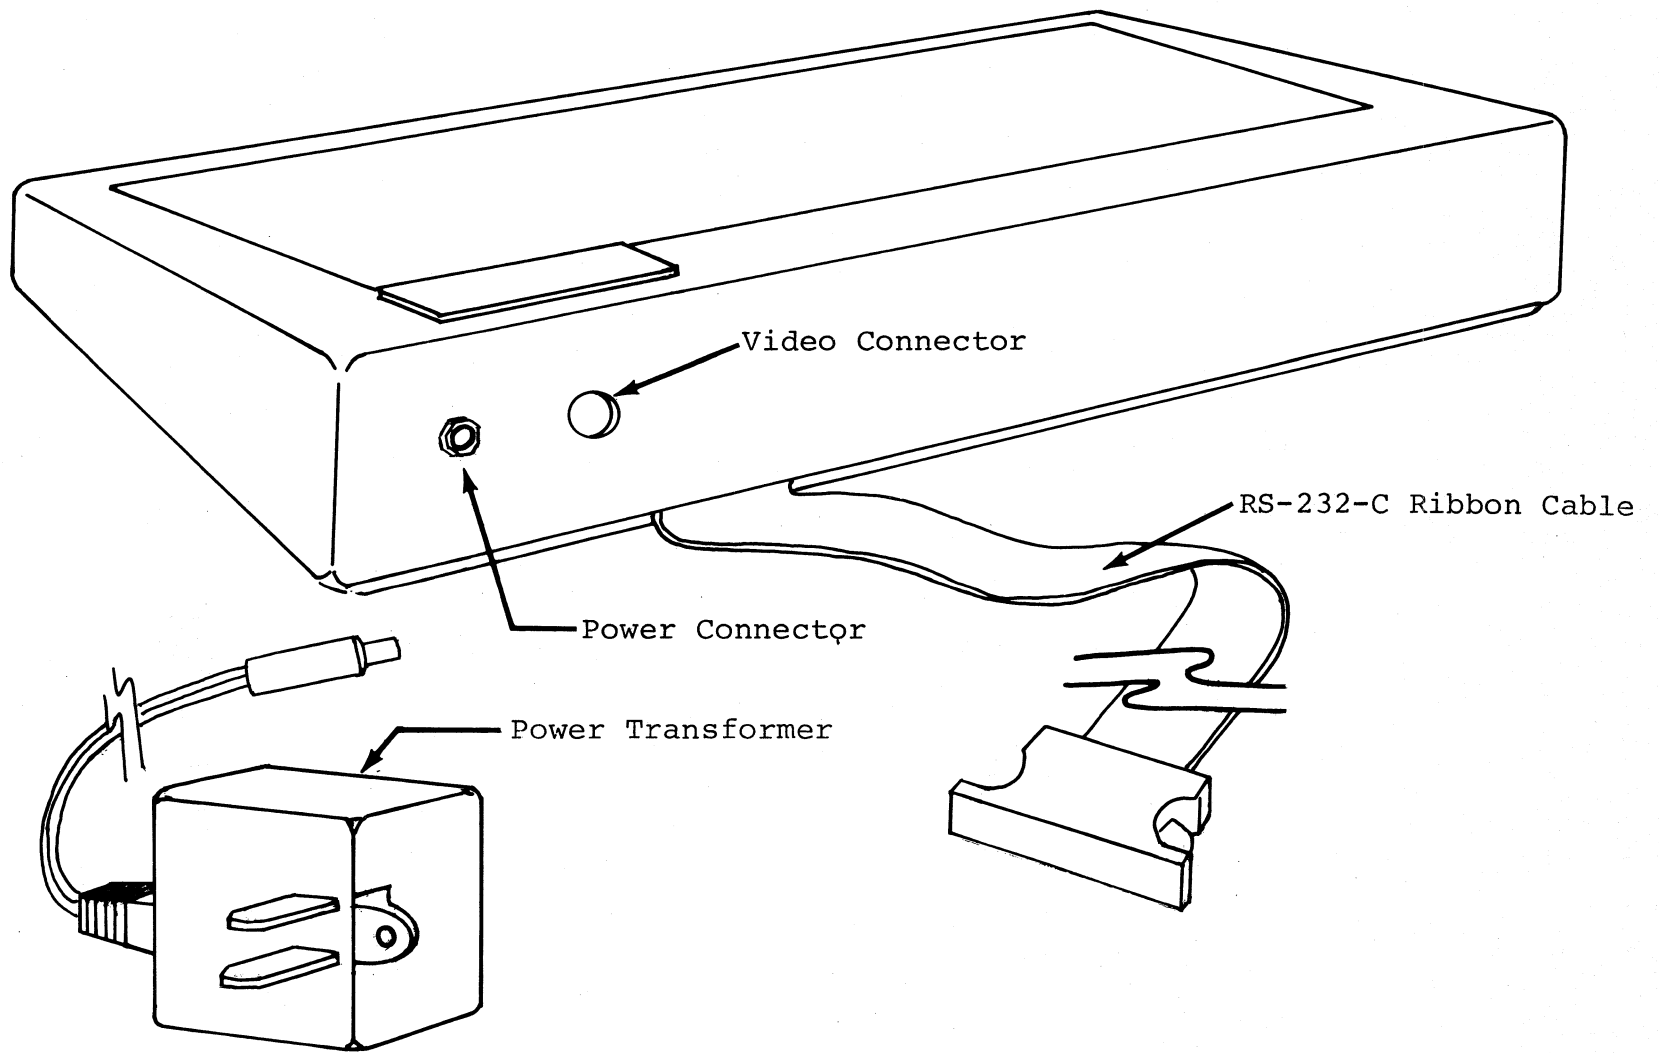

Figure 2-3. Location of Connectors
- . Connect the transformer to the power line, the transformer cable to the power connector on the KTM-3, and the video cable from the KTM-3 to the video monitor. See Figure 2-3.